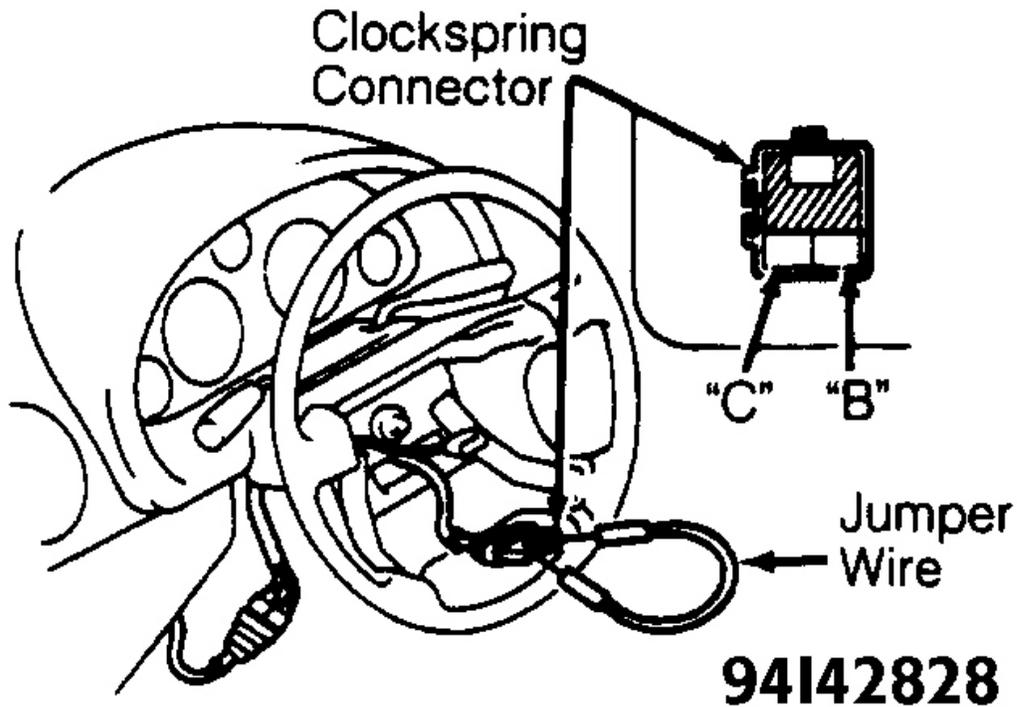

Fig. 11: Identifying Clockspring Connector Terminals
2. Turn ignition off. Disconnect negative battery cable. Remove driver air bag module. See **DRIVER AIR BAG MODULE** under REMOVAL & INSTALLATION. Remove jumper wire from driver air bag module clockspring connector (harness side). Connect driver air bag module Orange and Blue clockspring connectors. Connect a jumper wire between driver air bag module clockspring connector terminals "B" and "C". See **Fig. 11**.